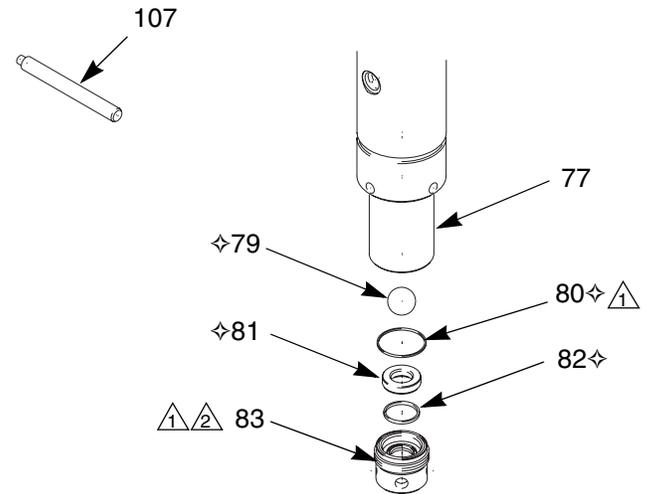

FIG. 12. Intake Valve
2. Using the supplied tool (107) or a spanner wrench, unscrew the intake housing (83) from the lower cylinder (77). Disassemble the intake valve. See FIG. 12.
4. Replace the seals (80⇄, 82⇄) and seat (81⇄). Lubricate the seal (80⇄) and threads of the housing (83). Place the ball (79⇄) on the seat. Screw the housing into the lower cylinder (77). Torque to 47-54 N•m (35-40 ft-lb).